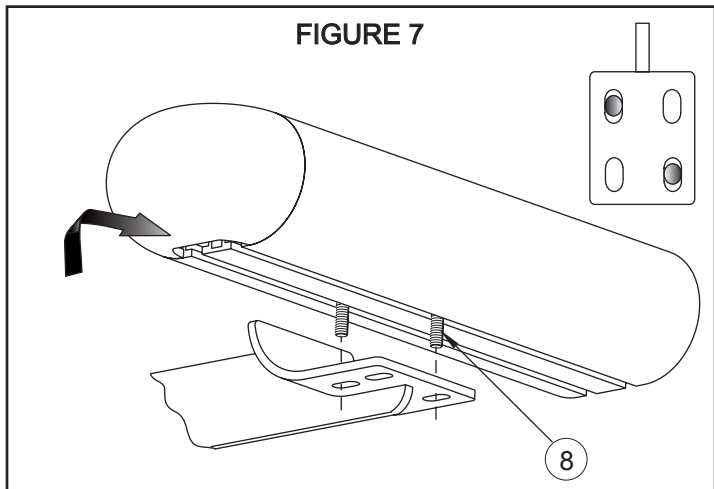

FIGURE 7
- STEP 6. Slide T-head bolts on step bar as shown (2 per slot, 4 per bar). Place step bar on saddle with long step pad forward and end cap screw facing inward. Assemble with 1/4" fasteners. **SEE FIGURES 7 AND 8.**